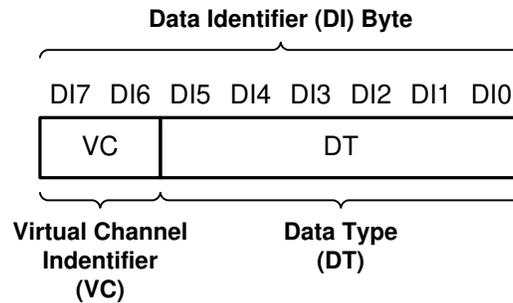

Figure 7-10. CSI-2 Data Identifier Structure
The DS90UB962-Q1 MIPI CSI-2 protocol interface transmits the data identifier byte containing the values for the virtual channel ID (VC) and data type (DT) for the application specific payload data, as shown in Figure 7-10. The virtual channel ID is contained in the 2 MSBs of the data identifier byte and identify the data as directed to one of four virtual channels. The value of the data type is contained in the 6 LSBs of the data identifier byte. When partnered with a DS90UB935-Q1 serializer, the Data Type is passed through from the received CSI-2 packets. When partnered with a DS90UB933-Q1 or DS90UB913A-Q1 the received RAW mode data is converted to CSI-2 Tx packets with assigned data type and virtual channel ID.